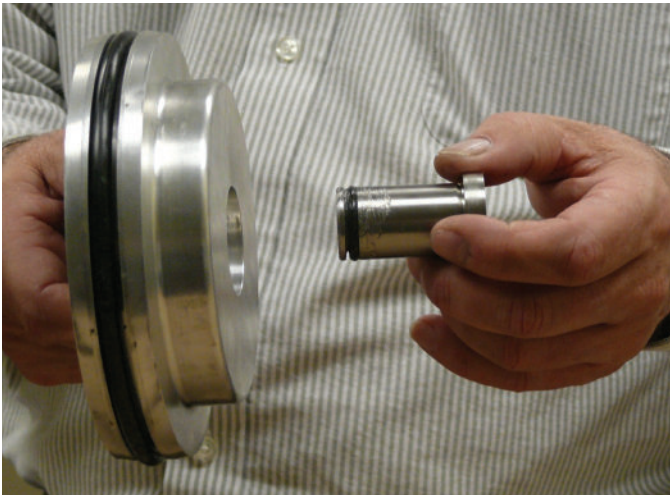

Figure 9-33 Install Motor Piston Bushing
20. Replace inner O-ring (Item 43) and O-ring (Item 18) on motor piston bushing (Item 17) and install in motor piston (Item 16). (Figure 9-33)